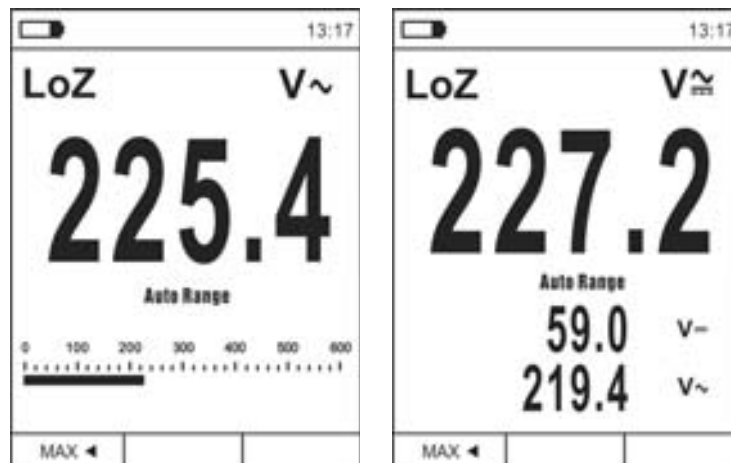

Fig. 10: Description of LoZ voltage measurement
2. Press key **MODE/VFD** by selecting modes “V $\sim$ ” or “V $\approx$ ” (see Fig. 10)